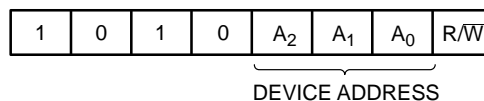

Figure 3. Slave Address Bits
The Master addresses a Slave by creating a START condition and then broadcasting an 8-bit Slave address. For the N24C32, the first four bits of the Slave address are set to 1010 (Ah); the next three bits, A₂, A₁ and A₀, must match the logic state of the similarly named input pins. The R/ \overline{W} bit tells the Slave whether the Master intends to read (1) or write (0) data (Figure 3).